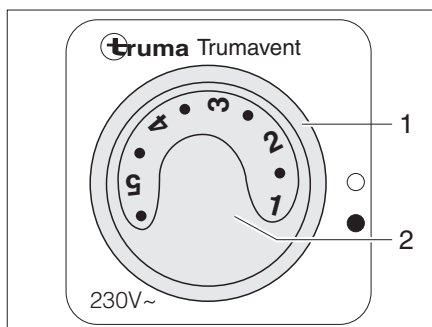

Fig. 112 Operating switch for circulation fan (240 V)
- Turn the rotary switch (Bild 112,1) to "●".
- Turn the knob (Bild 112,2) to the required position of the circulation fan.
- Turn the rotary switch (Bild 112,1) to "○".